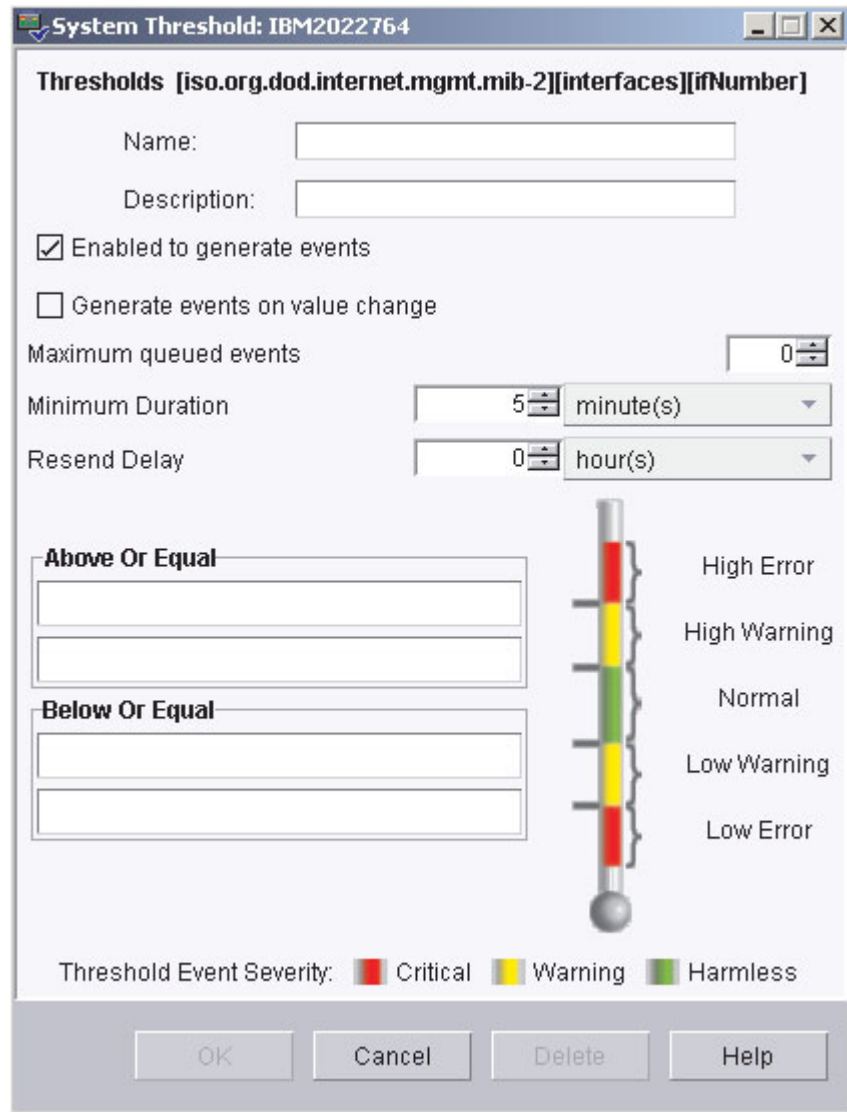
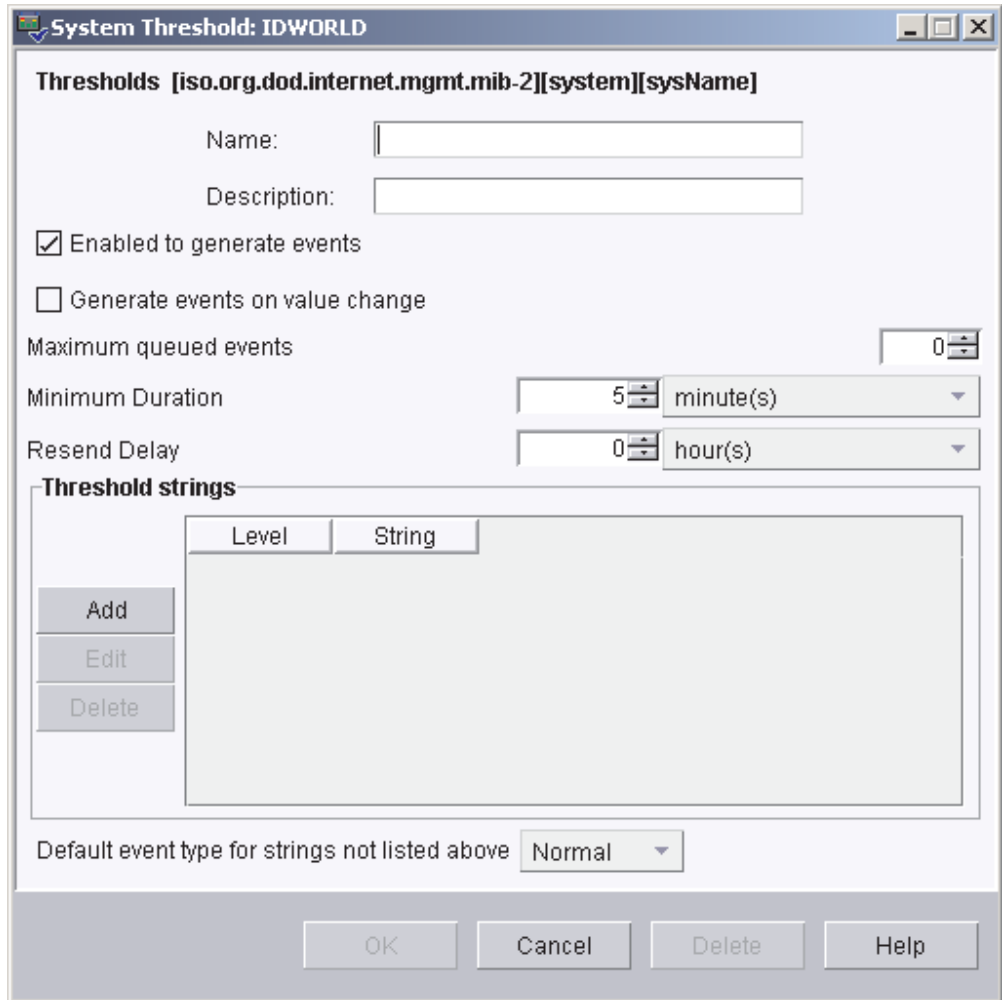

Figure 58. System Threshold window for setting numeric thresholds
Figure 59. System Threshold window for setting text threshold strings
3. In the Selected Resources pane, right-click the resource attribute you want to monitor; then, click **Individual Threshold** if you dropped the Resource Monitors task onto an individual managed system or device. Or, click **Group Threshold** if you dropped the Resource Monitors task onto a group. The System Threshold window opens, and depending on whether the resource-monitor threshold is numeric (Figure 58 on page 111) or a text string (Figure 59 on page 112), you see the applicable window.